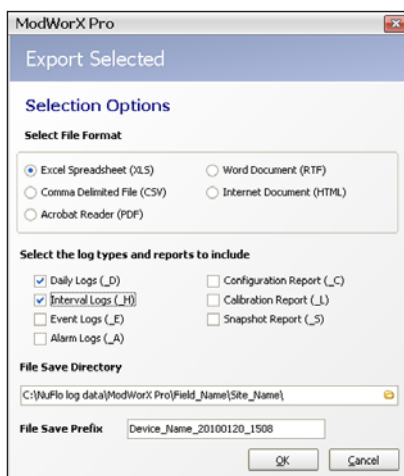

Figure 14.39
2. An Export Selected window will appear (Figure 14.39, page A-1). To change the file path and/or file name from the defaults listed below, browse to the desired file path and/or type the desired entry in the field provided. See Log Directory and Filenames, page A-22 for more information.